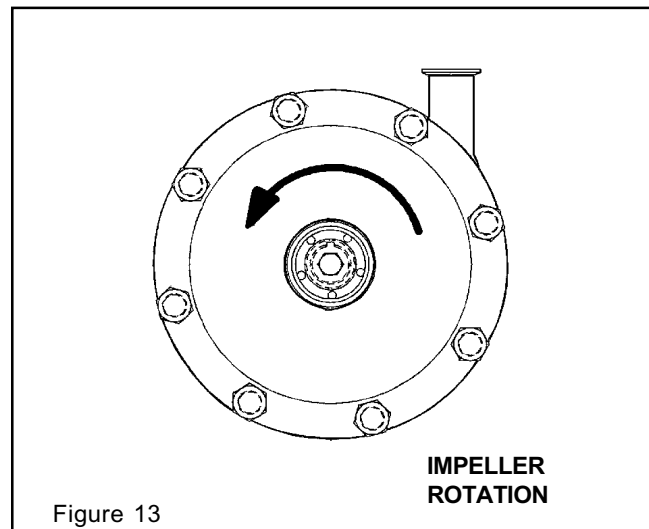

Figure 13
3. Following electrical installation, check pump rotation. **Facing pump, the correct rotation is counterclockwise.** (Figure 13) Do this procedure after disassembly for final cleaning and prior to **FINAL PUMP CHECK**.